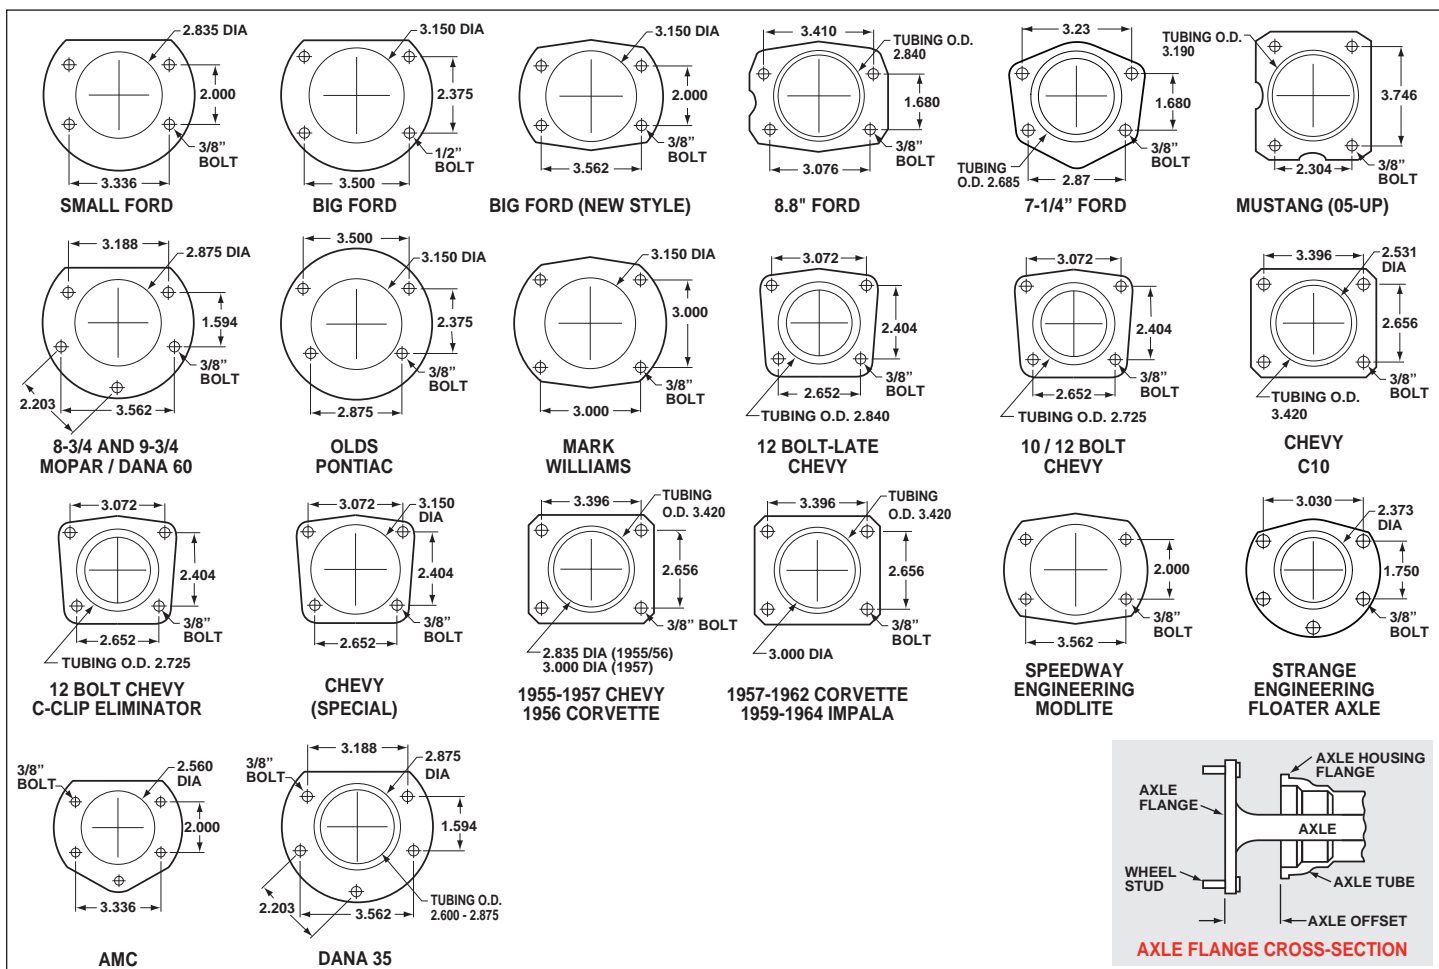

Figure 6. Rear Housing Flange Chart and Axle Flange / Offset Cross-Section
- Make sure this is the correct kit to fit the exact make and model year of your vehicle. This kit is designed for direct bolt-on installation to 1955 - 1957 Chevrolet and 1956 Corvette axle housing flange. Reference Figure 6, 1955-57 Chevy / 1956 Corvette diagram. This kit comes with two sizes of axle shims. Use the 2.40 I.D. x 2.74 O.D. for model years 1955/56, and use the 2.60 I.D. x 2.94 O.D. for model year 1957.
- Dimension from wheel side of axle flange to wheel side of axle housing flange (see Figure 6, lower right hand corner). This dimension is critical to ensure proper alignment of the rotor to the caliper, and should match offset given in the kit description.